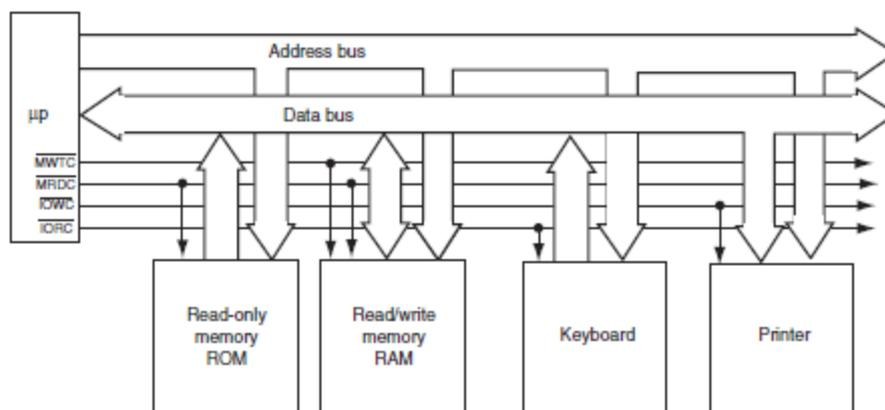

Figure 1-12: The block diagram of a computer system showing the address, data and control bus structure
- A bus is a common group of wires that interconnect components in a computer (Fig 1-12)